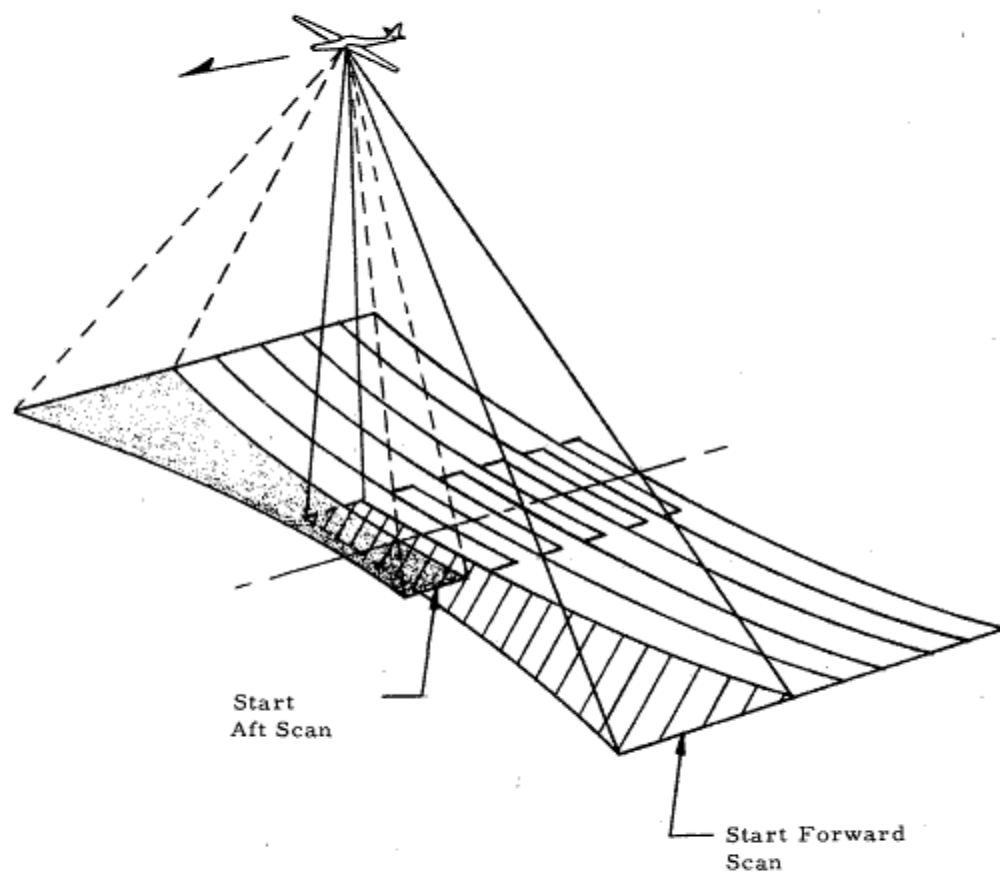

Figure 2-1. Aerial Panoramic Photography, Type II
- 2-3. Photographic coverage of the Type II system is represented in Figure 2-1. The forward camera scans the earth from  $63^{\circ}$  to the left of nadir to  $30^{\circ}$  to the right of nadir. The aft camera scans the earth from  $30^{\circ}$  to the left of nadir to  $63^{\circ}$  from the right of nadir. Each mission can provide 3670 nautical miles of flight line coverage on 2828 frames and 50 to 63 miles (or  $126^{\circ}$ ) total transverse coverage. The scan overlap provides full stereo viewing of mission results for all points on each frame format. In addition to normal stereo, convergent stereo is available within the scan overlap of  $30^{\circ}$  each side of the vertical centerline. See Figure 2-2.